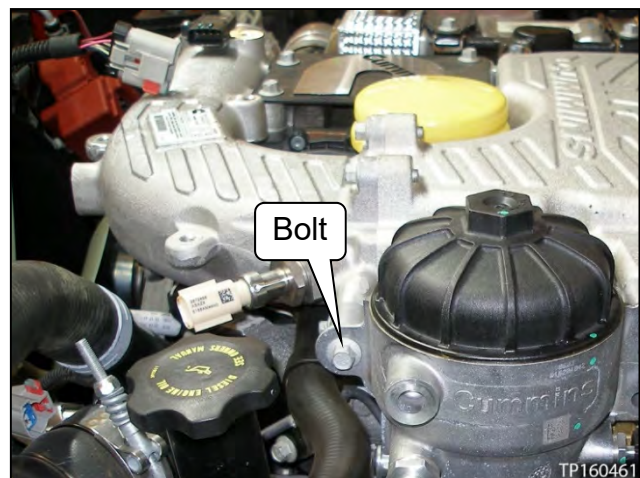

Figure 97
37. Mount the stage 2 fuel filter assembly with the one bolt (see Figure 97).
- Also apply the torque above to the bolt shown on page 40, Figure 97.